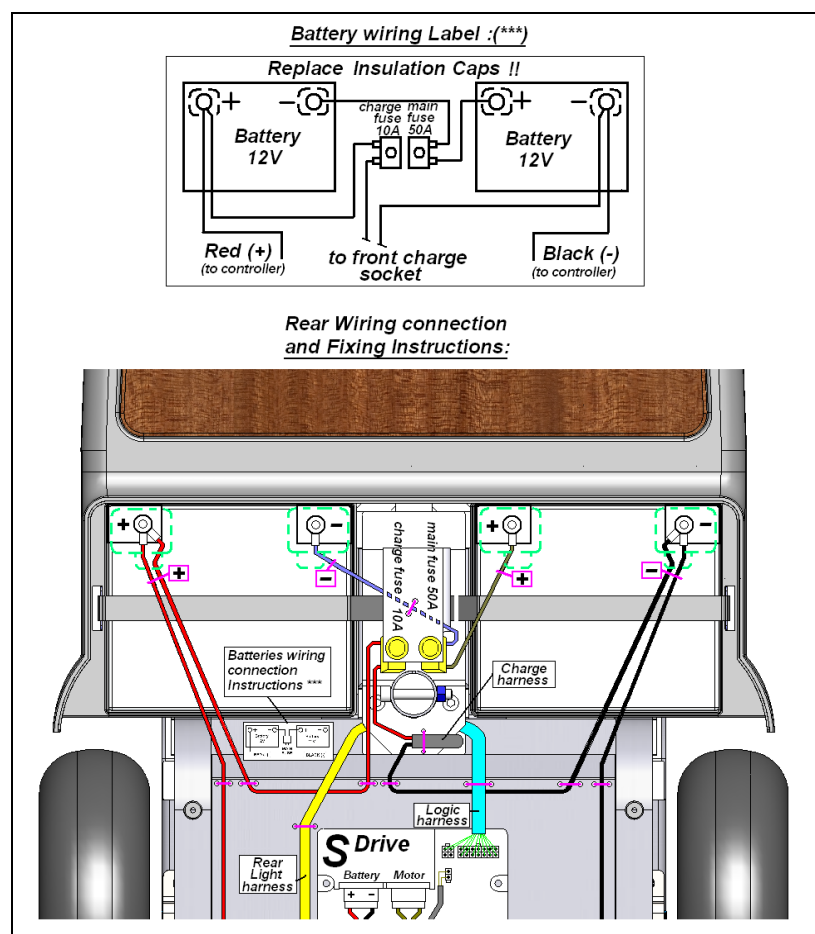

Figure 11
2. The numbers in parentheses refer to the parts illustrated in figure 11.
Replace Batteries	<p>Remove batteries terminal insulating cap. Each time remove only one cap. Unsecure the screw of the wiring terminal from battery terminal using 8 mm key. Make sure your 8 mm key is not touching any other terminal or metal part. This can cause damage and Injure.</p> <p>After un securing all wires terminals, remove the batteries and install the new ones. Connect the wires as shown in below Figure 11. The connection Label is also located near the batteries.</p> <p>Secure all wires to the frame with Ties as shown in Figure 11.</p> <p>Secure all terminals with screws and make sure insulating caps are correctly placed on terminals.</p> <p>Warning! Batteries contain high energy. Misconnection, short circuits can burst with strong sparks causing heat and possible fire.</p> <p>Warning! Working with batteries can cause damage and Injure if not done properly.</p> <p>Note! Replacing batteries should be done only by trained and or professional person.</p>